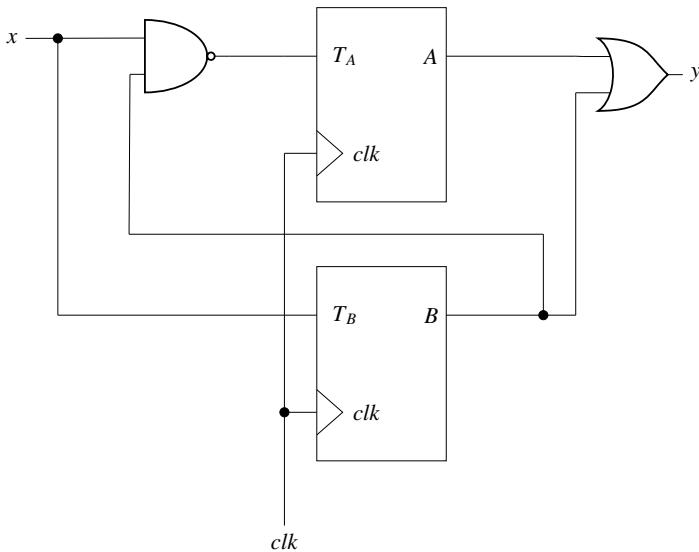

Fig. 5.29
30. Two T-flip flops are interconnected as shown in Fig. 5.29. The present state of the flip flops are: $A = 1, B = 1$. The input x is given as 1, 0, 1 in the next three clock cycles. The decimal equivalent of $(ABy)_2$ with A being the MSB and y being the LSB, after the 3rd clock cycle is _____